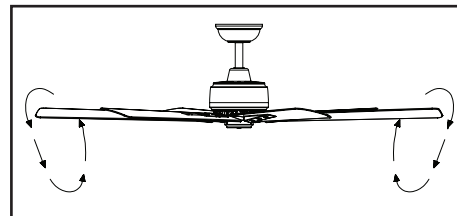

Figure 26
**Cool weather - (Reverse)** An upward air flow moves warm air off the ceiling as shown in Figure 26. This allows you to set your heating unit on a lower setting without affecting your comfort.